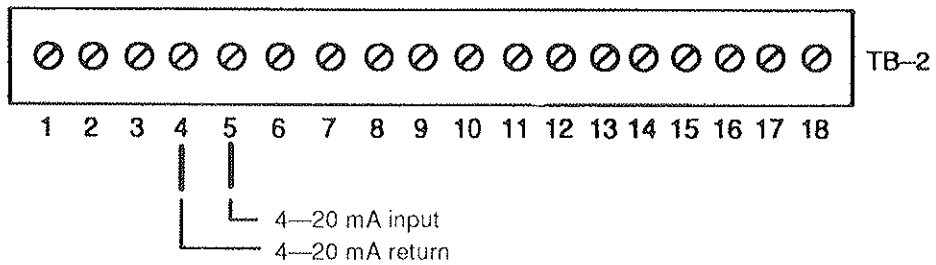

FIGURE 4
9. For external set point connection (4-20mA), connect two wires to terminals 5 and 4 of TB-2. Terminal 5 is positive (current flows into terminal 5) and terminal 4 is negative. (See Figure 4.)